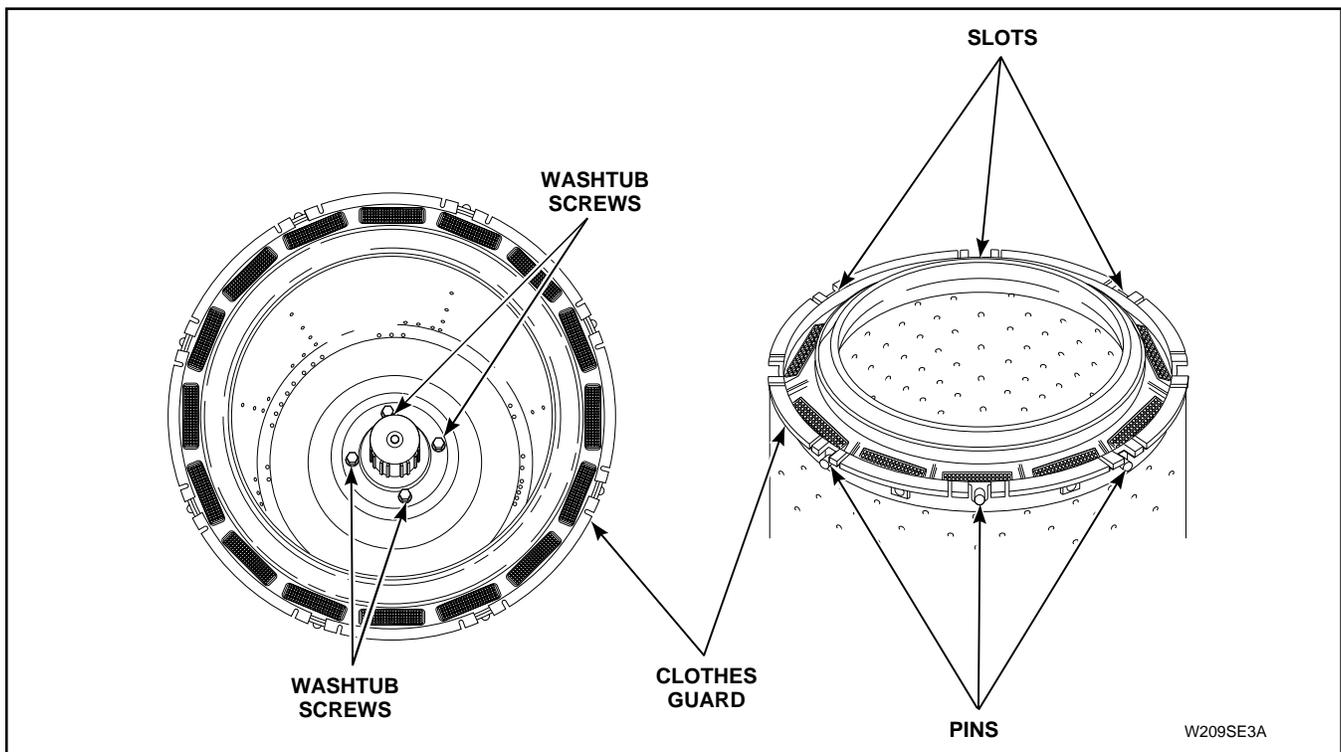

Figure 37
- k. Remove four screws and washers holding washtub to hub, *Figure 37*.
1. Place blade of a small screwdriver into slots between clothes guard and washtub, *Figure 37*.
2. Carefully pry pins of clothes guard out of holes in washtub, *Figure 37*.